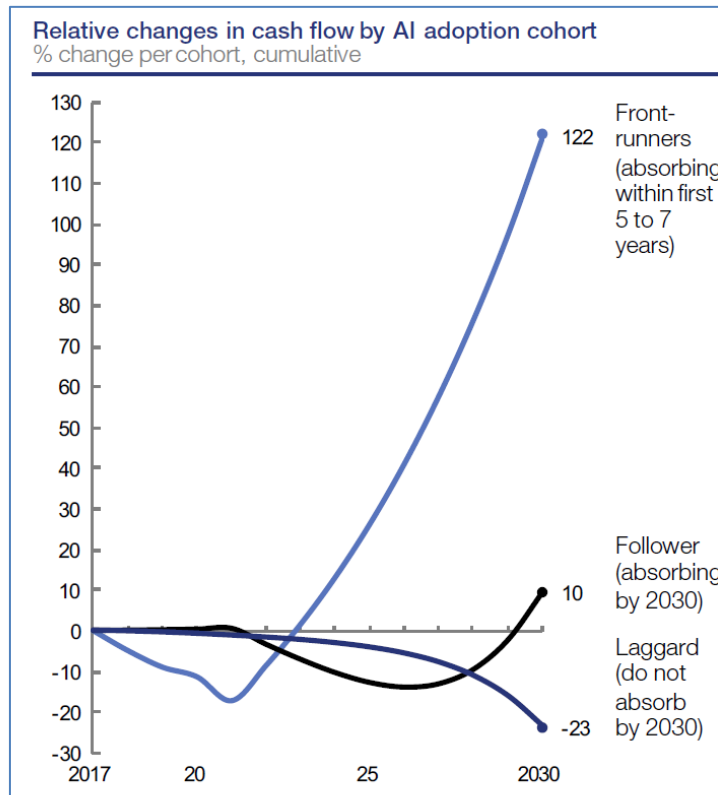

Figure 2—Relative Changes in Cash Flow by AI Adoption Cohort
The AI-powered geometric deep learning technology within Physna helps deliver value to its users. In a recently published white paper by the World Economic Forum,³ titled “Fourth Industrial Revolution Beacons of Technology and Innovation in Manufacturing,”⁴ the authors state that “three technological megatrends are the principal drivers of a Fourth Industrial Revolution transformation in production: connectivity, intelligence, and flexible automation.” Within the report, a McKinsey Global Institute analysis projects “a remarkable gap between companies that adopt and absorb artificial intelligence (AI) within the first five to seven years and those that follow or lag behind. The analysis suggests that AI adoption ‘front runners’ can anticipate a cumulative 122% cash-flow change, while ‘followers’ will see a significantly lower impact of only 10% cash-flow change.” (See Figure 2).